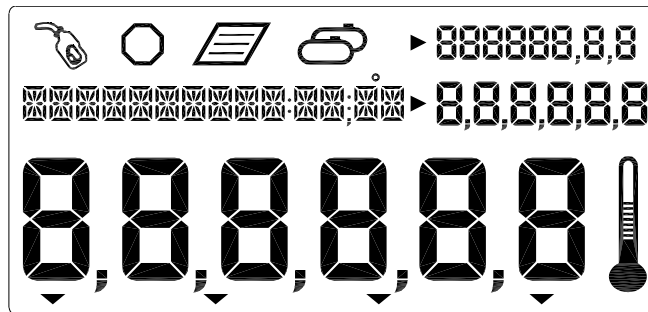

Figure 3. All Segments Activated
- All segments of the display are activated (see Figure 3)